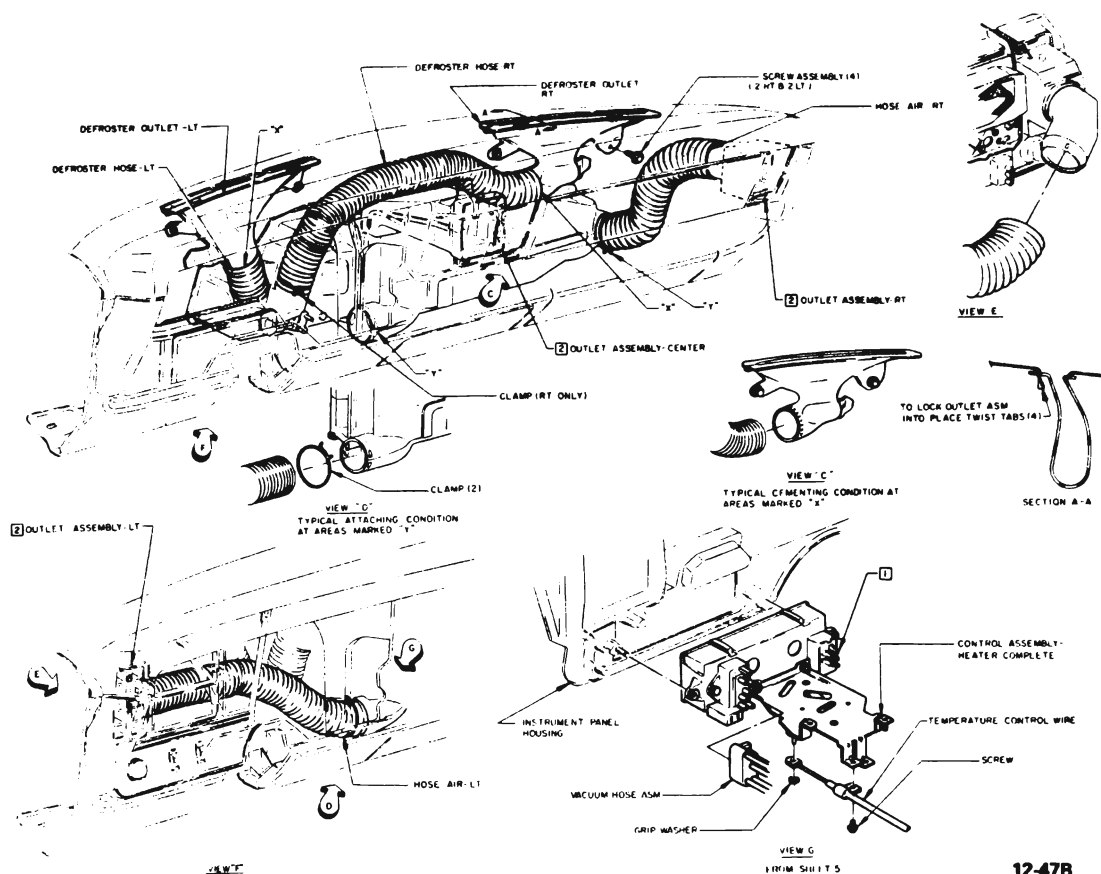

Figure 12-28 Installation of Air Duct Hoses
3. Remove right and left instrument panel outlet air hoses. See Figure 12-28.